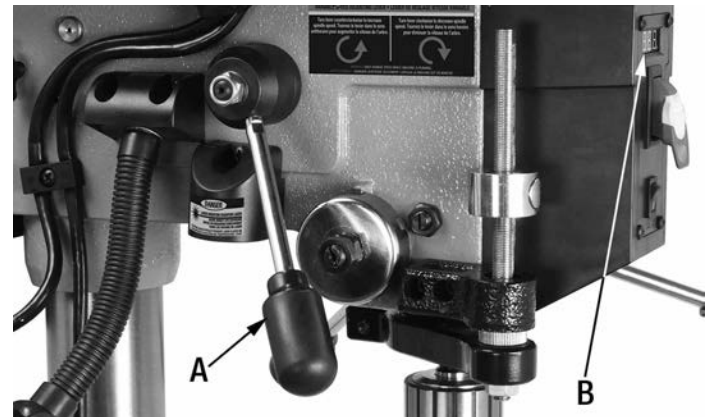

FIGURE 20
- 2) The spindle speed is controlled by the speed adjusting lever (A) Fig.20 located on the left side of the drill press head.
- 5) Refer to the digital readout (B) Fig.20 on the front of the drill press head to set the desired speed.